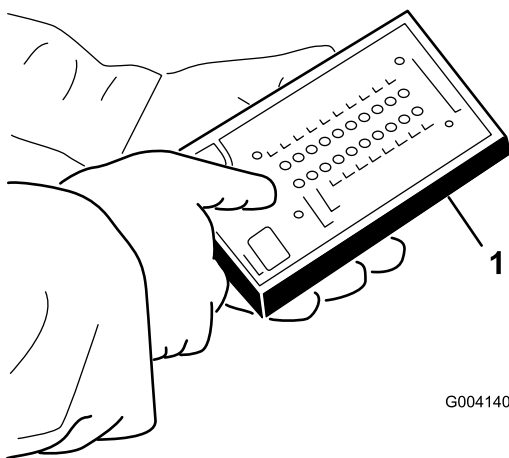

**Figure 18**
- Locate the wire harness and connectors near the controller (Figure 18).